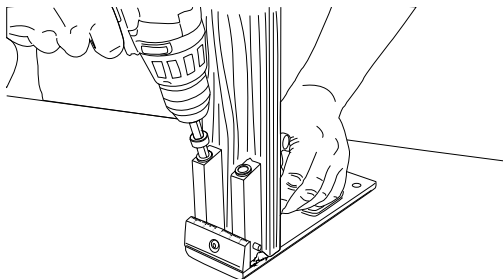

Fig. 8
- Assembling the joint - **(Fig. 8)**